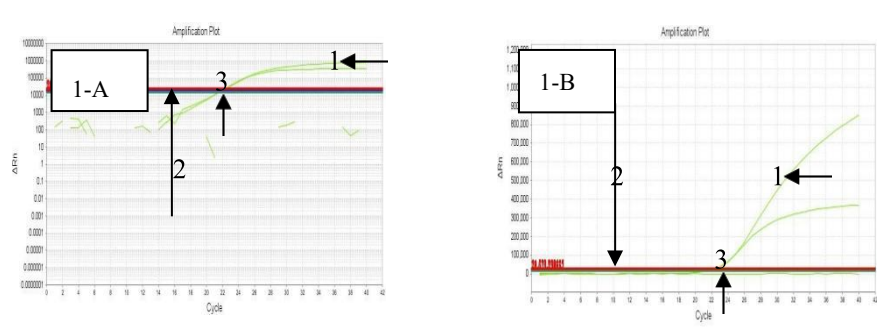

Figure 1: Amplification curve. 1-A Exponential amplification. 1-B Linear amplification: 1 - amplification curve, 2 - threshold line, 3 - Ct value.
5. Amplification diagram and analysis example for detection by the kit (see Figure 1).